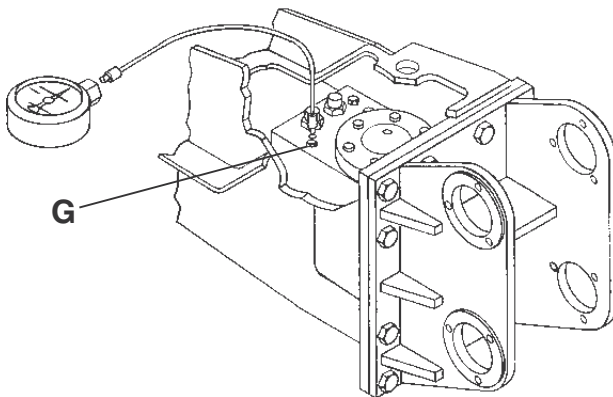

Figure 11-11. Typical Hy-Ram Nitrogen Precharge Chamber
(Refer to Figure 11-11.)
4. Firmly insert test gauge hose into fill valve. Refer to Figure 11-11.